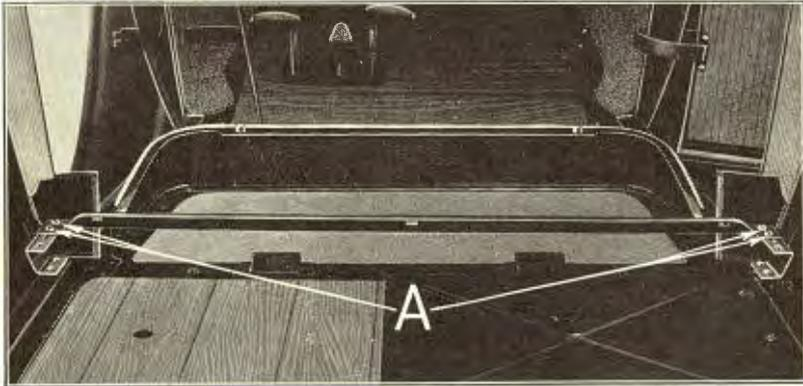
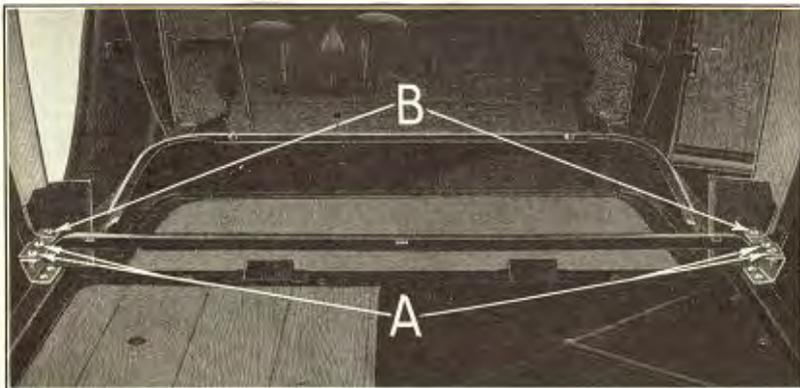

Fig. 570
Fig. 571
- 1265** The seat can now be moved back 2" by running off the nuts on the ends of the four seat bar to bracket bolts (see "A" Fig. 570) and withdrawing the bolts. Then slide the seat bar back approximately 2" on brackets or until rear bolt hole in seat bar lines up with rear hole in bracket. The four bolts are then inserted through seat bar and brackets (see "A" Fig. 571) and lock washers and nuts run down tightly on ends of bolts.